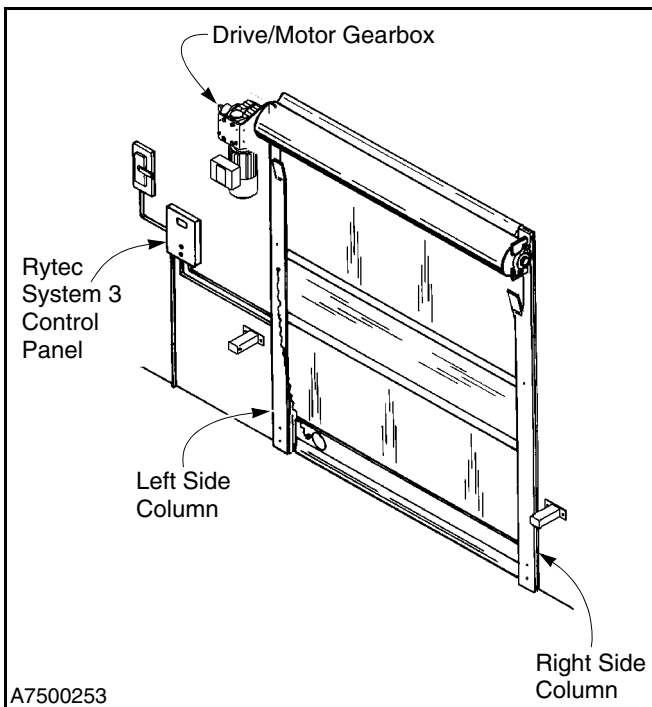

Figure 59
3. To ensure that the correct parts for your controller are shipped, please include the serial number of your door with the order. Refer to the owner's manual of your door to determine the location of the serial number plate. The serial number plate is generally located inside one of the side columns. (See Figure 59.)